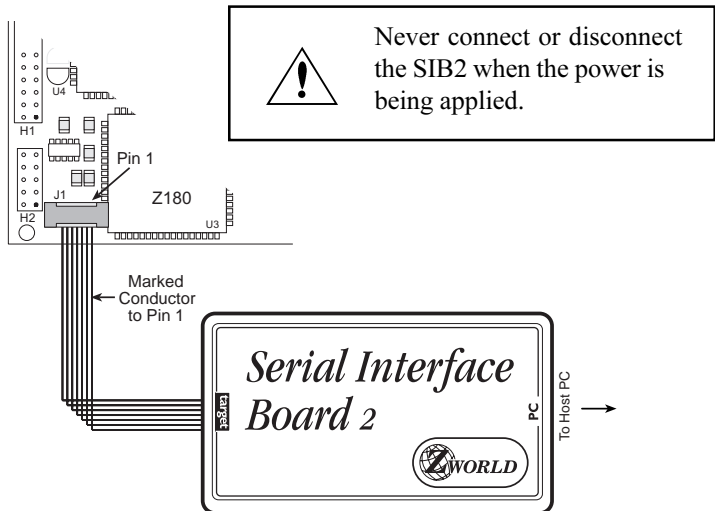

Figure 2-4. Serial Interface Board 2 Connection to BL1500
3. Connect the SIB2's small ribbon cable to header J1 on the BL1500 as shown in Figure 2-4. Match the arrow on the SIB2 connector to pin 1 of header J1.